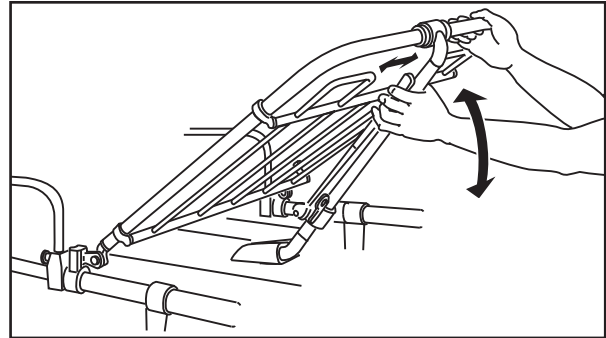

Figure 14 -Raising or Lowering Backrest
2. Support the backrest while squeezing the release lever (Figure 14).